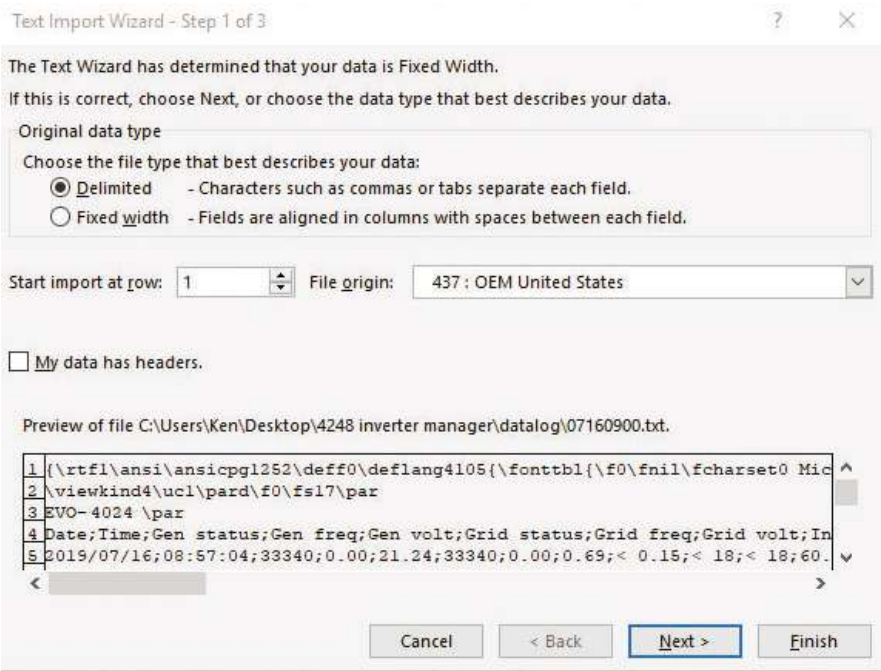

Fig 5.3 Screen showing Step 1 of 3 of "Text Import Wizard" in Excel
- "Text Import Wizard – Step 1 of 3" will be shown (Fig 5.3). Choose "Delimited" File Type".